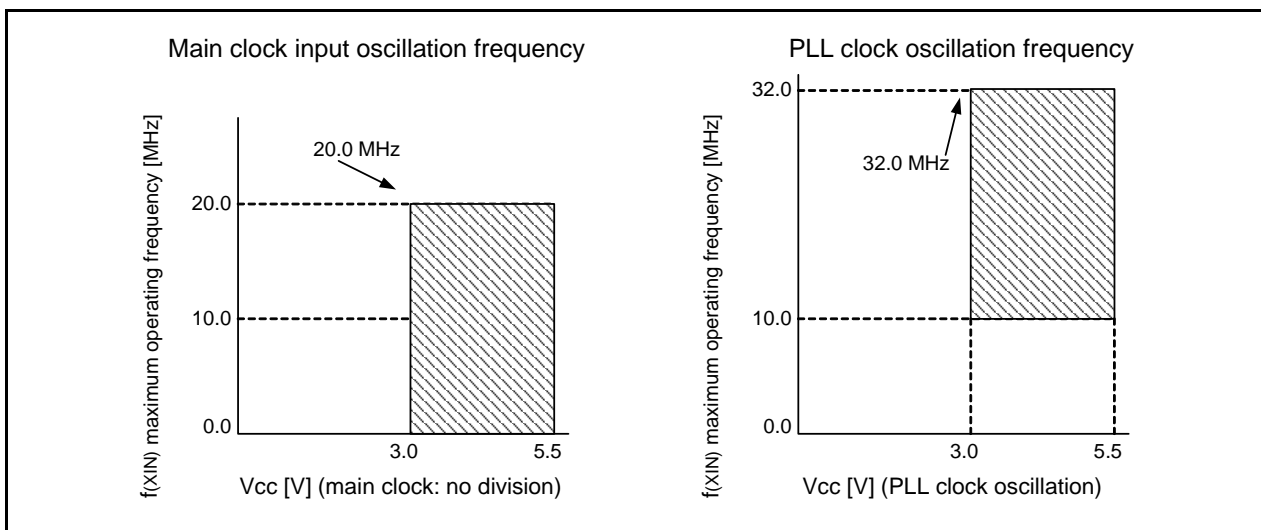

Figure 5.1 Main Clock Input Oscillation Frequency, PLL Clock Oscillation Frequency
- Refer to Figure 5.1 "Main Clock Input Oscillation Frequency, PLL Clock Oscillation Frequency" for the relationship between main clock oscillation frequency/PLL clock oscillation frequency and supply voltage.